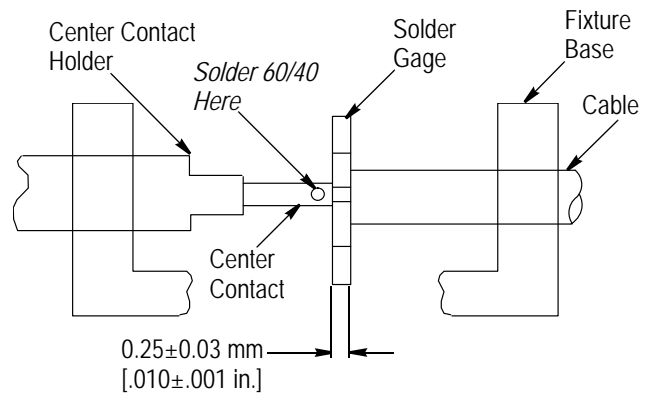

Figure 4
3.2. Solder Center Contact to Cable Inner Conductor (Figure 4)